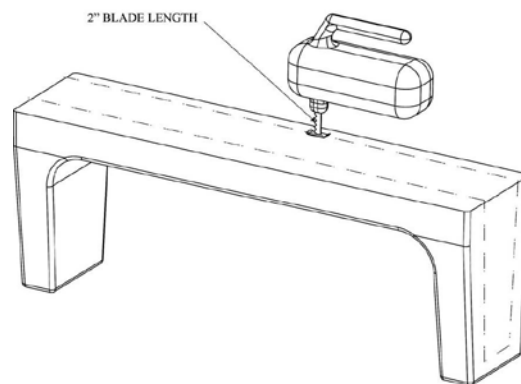

FIGURE 5
8. Cut the CleanCut Step to fit the cut-out tub opening using a jigsaw (Figure 5). Fasten Velcro-stripping on both sides of the jigsaw to prevent making any unwanted marks on the CleanCut Step. It is important that a 2” blade is used to cut out the CleanCut Step so as to prevent accidentally cutting through the top of the CleanCut Step. Snap off any excess length on the stock jigsaw blade beyond 2”.